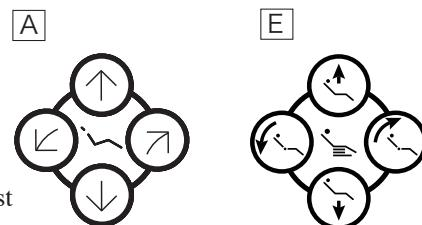

Fig.3-7 Chair Manual Control Switches
⑤ Chair Manual Control Switches (Fig.3-7) **A E**